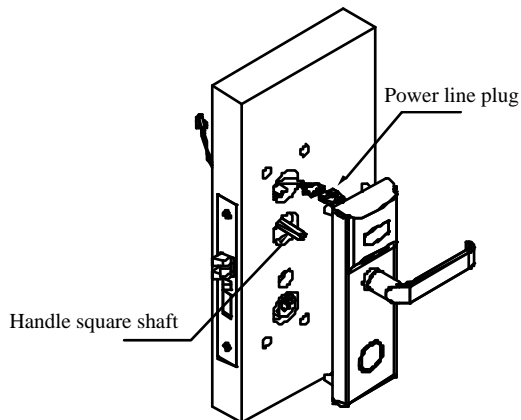

Figure 12
12) Install the handle's square shaft into the lock body's square hole, put the foreplat near the installation area, then stack the lock body's connecting wire's plug into the foreplat aggregation's socket. Show as the Figure 12.